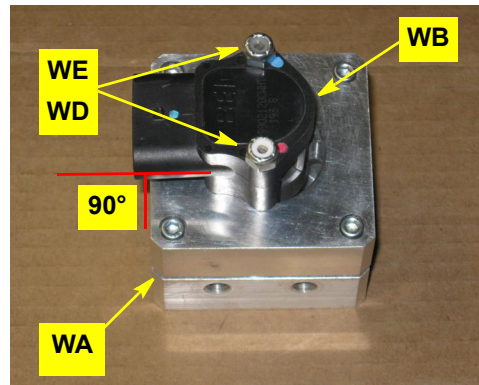

Figure 1a: Prepared WAS housing/connector
- a. Using hardware **WE** (nuts - use 2) and **WD** (screws - not visible), attach the WAS wire connector **WB** to the WAS housing **WA**. Set the WAS wire connector **WB** at 90° to any of WAS housing **WA**'s sides (Figure 1a).